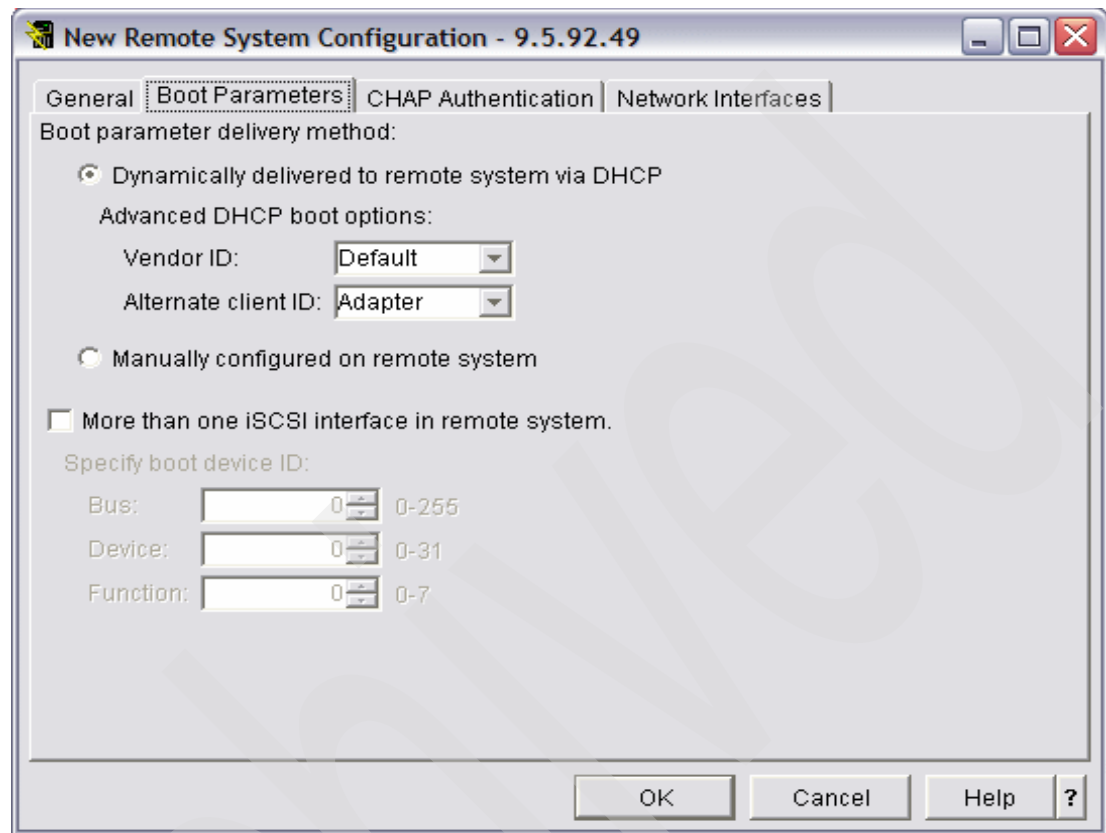

Figure 4-21 Select DHCP for boot parameters
5. Put in the IP address of the service processor and the serial number of the enclosure. Figure 4-21 on page 68 shows this.
6. Choose what to make the default authority to the object. See Figure 4-21 on page 68.
7. On the Boot Parameters tab (Figure 4-21), we recommend that you select **DHCP** and use the default for the Vendor and Client ID fields. Otherwise, identify the boot device using information gathered from the Fast!Util utility.